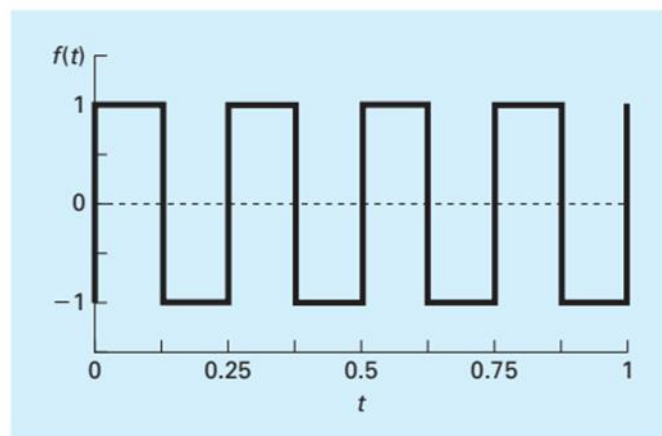

FIGURE P16.4
16.4 In electric circuits, it is common to see current behavior in the form of a square wave as shown in Fig. P16.4 (notice that square wave differs from the one described in Example 16.2). Solving for the Fourier series from